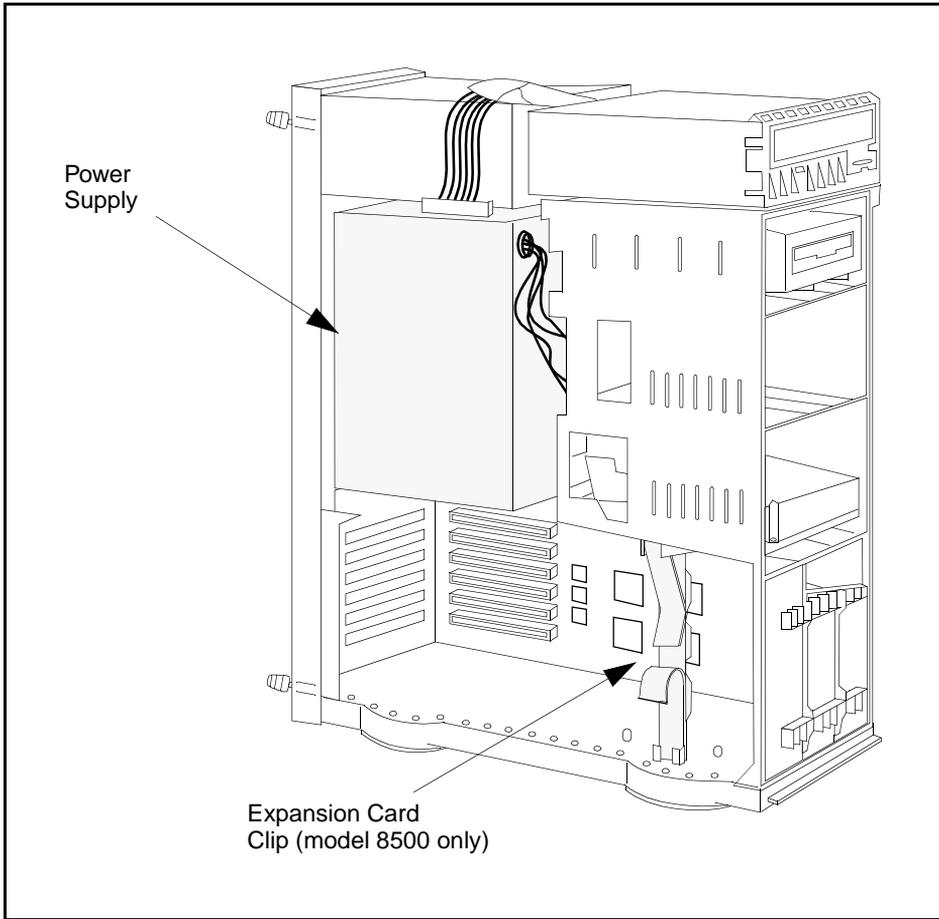

Figure 2.2 - Macintosh Chassis (model 8500)
6. (PowerMac 8500 only) The PowerMac 8500 includes an expansion card clip, as shown in Figure 2.2. Remove the expansion card clip. Grasp the clip handles with your thumb and forefinger and squeeze. The clip should pull straight out of the case.